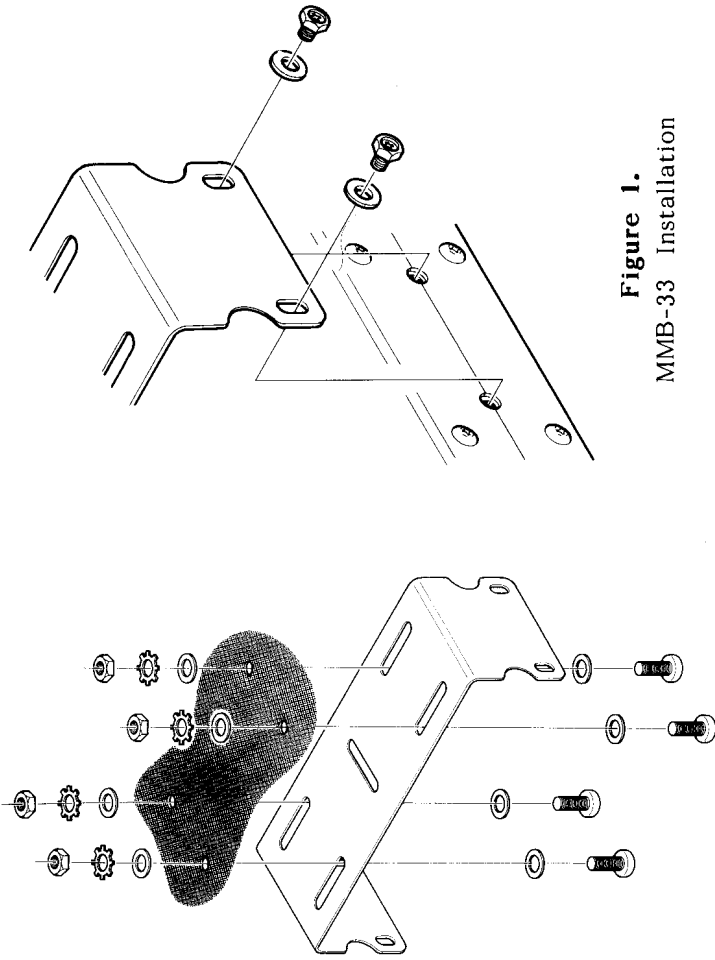

Figure 1.
- (1) Use the mounting bracket as a template for positioning the mounting holes, after determining the proper location with sufficient clearance for the transceiver. Use a 4.8mm (3/16") bit for drilling the holes. Secure the bracket with the screws, washers and nuts supplied, as shown in Figure 1. (Continued on Page 10)